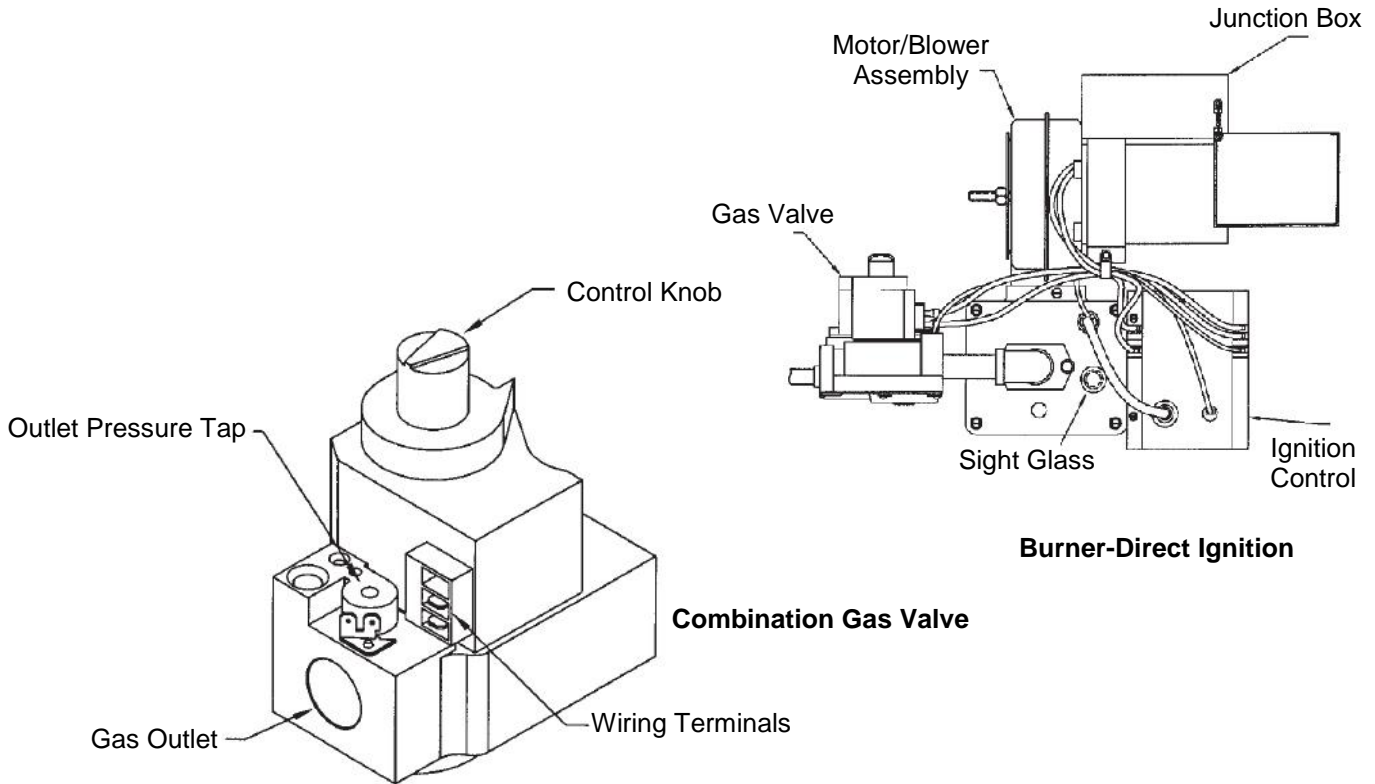

FIGURE 13
1. Depress the gas valve control knob on the combination gas valve and turn to "OFF" (See Figure 13).